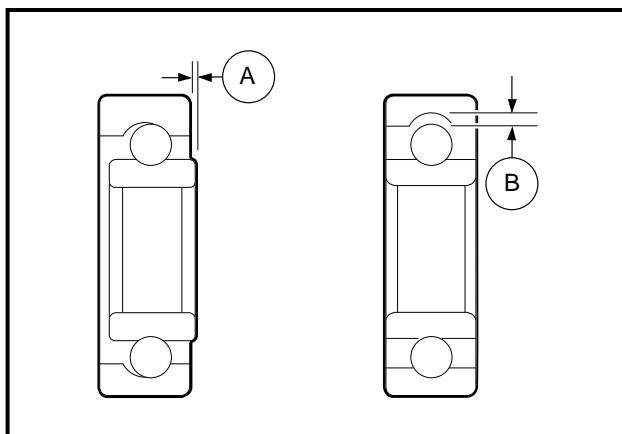

Figure 13-90 Check Ball Bearing
2. Spin the ball bearing by hand and check for (A) axial play and (B) radial play. Replace the ball bearing if it is noisy, does not spin smoothly, or if it has any play (**Figure 13-90, Page 13-41**).